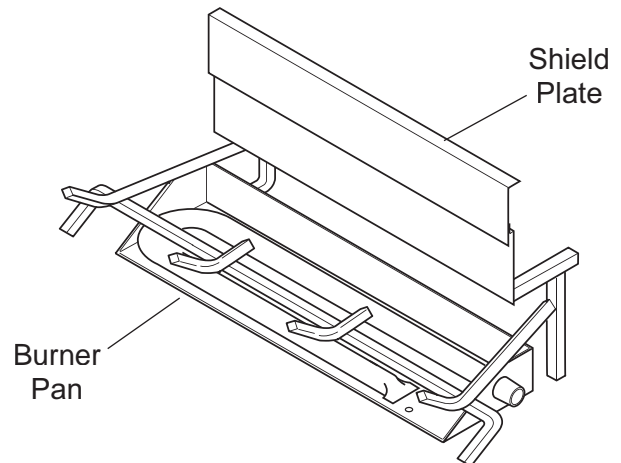

Figure 93 - Sliding Shield Plate Down Back of Burner Pan
1. Slide shield plate down back of burner pan. *See Figure 93.*